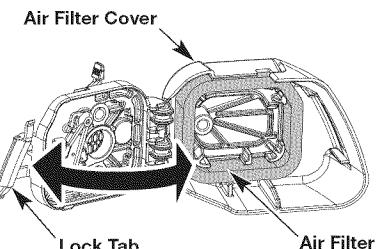

Fig. 21
1. Open the air filter cover by pressing the lock tab in and pulling out on the air filter cover (Fig. 21).
2. Remove the air filter (Fig. 21).
6. Replace the air filter into the air filter cover (Fig. 21).